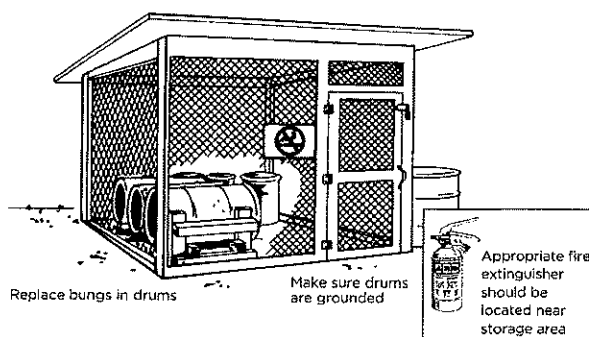

Figure 25-7: Storage of Flammable Liquids
- See Figure 25-7 for pointers on safe storage of flammable liquids.